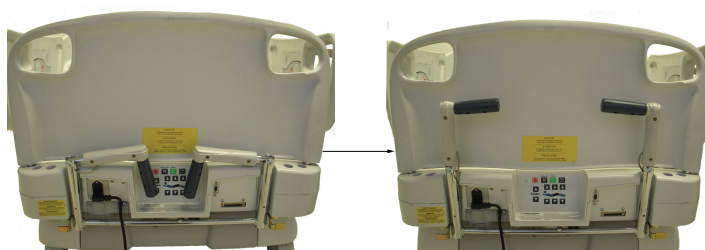

Figure 8: Unfolding the Zoom motorized drive handles
3. Unfold the drive handles from the head end of the product (Figure 8 on page 26). Make sure that the drive handles lock into the upright position.